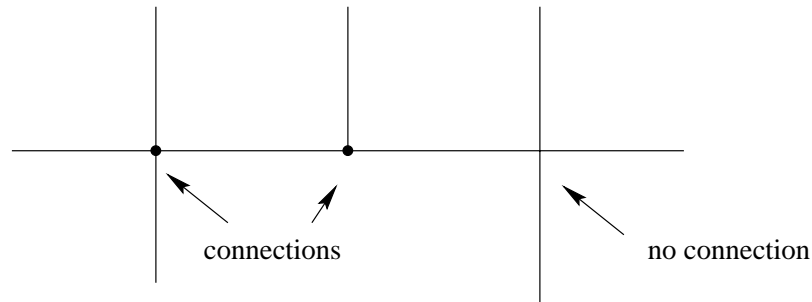

Figure 2: Depiction of Wires
6. Wires: use horizontal and vertical lines only, drawn with a straight-edge. Connections are noted by dots. Do not use “hop-overs” to indicate non-connection points. (See Figure 2.)